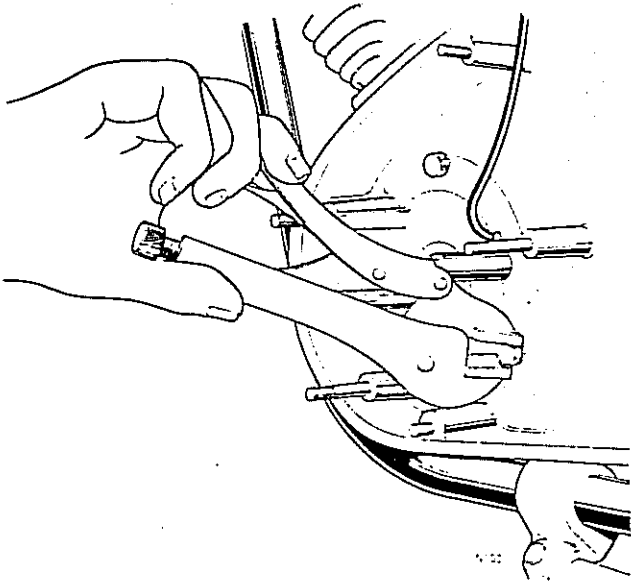

Fig. C44 Using grip wrench to squeeze over tab washers at inner chaincase
- 7 Fit the inner chaincase securing tab washers and set screws and squeeze over the locking tabs using a grip wrench as shown in Fig. C44.